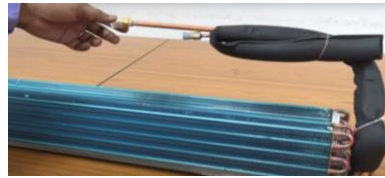

Fig. 1.30 Evaporator coil or Cooling coil of the indoor unit
6. **Evaporator Coil** – This coil is responsible for cooling and dehumidifying the indoor air as it passes through the evaporator or cooling coils. It contains a refrigerant that absorbs heat from the air, cooling it down. Figure 1.30 illustrates the evaporator coil or cooling coil of the indoor unit.